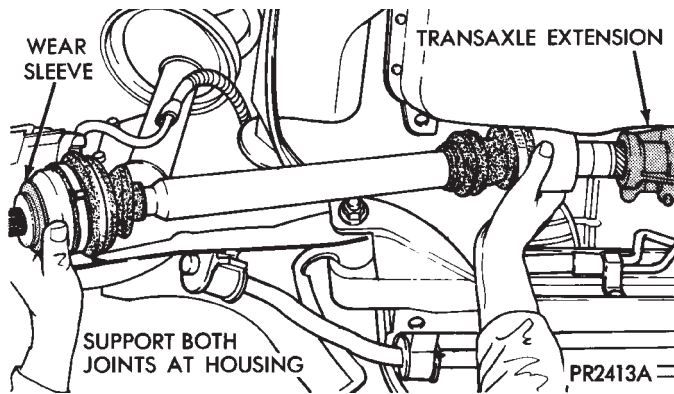

Fig. 8 Removing Driveshaft Assembly Unequal Length
(5) Support assembly at C/V joint housings. Remove by pulling outward on the inner joint housing. **DO NOT PULL ON SHAFT** (Fig. 8).
(1) Hold inner joint assembly at housing (Figs. 8 and 9) while aligning and guiding the inner joint spline into the transaxle or intermediate shaft assembly.